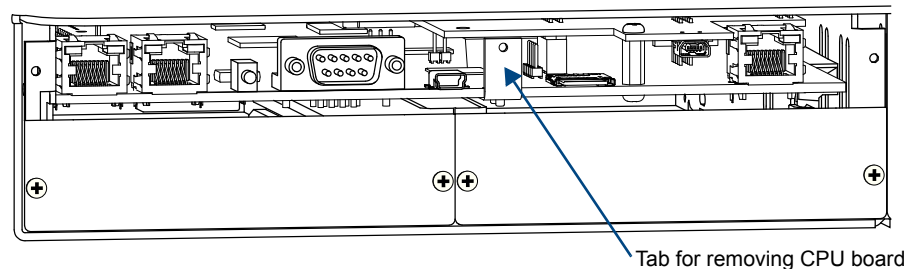

FIG. 130 Use tab to pull CPU board straight out
5. Use the tab indicated in FIG. 130 to pull the CPU board straight out of the enclosure.